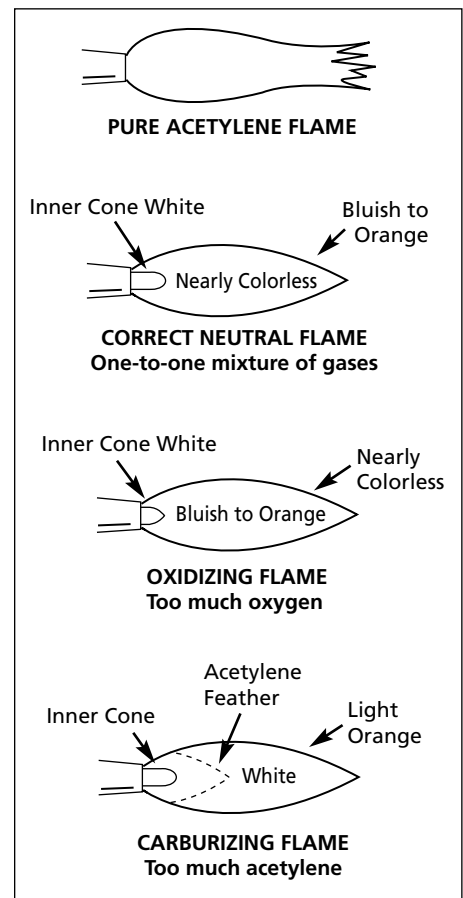

Figure 15 - Acetylene Flames
3. Open the torch oxygen valve (for cutting attachment, open preheat valve) until a neutral flame appears (see Figure 15).